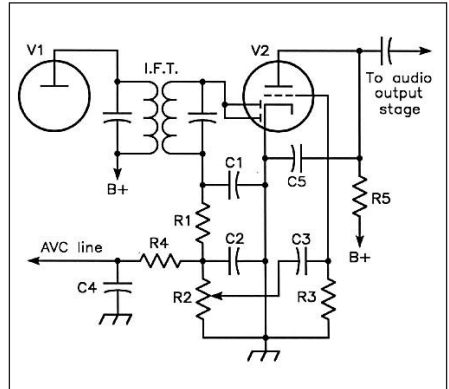
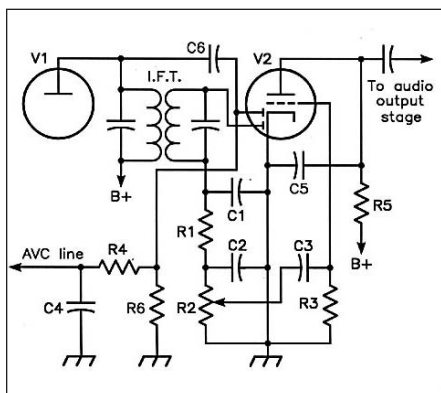
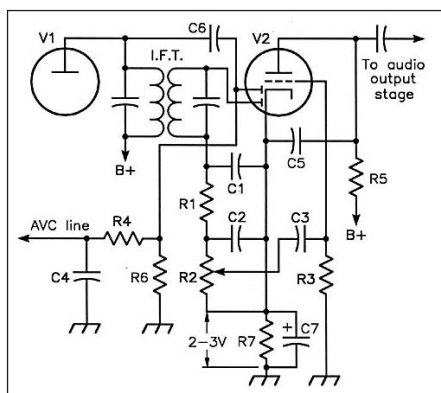

Fig. 1. A typical second detector/AVC/first audio stage.
Fig. 3. Separate audio and AVC detectors.
Fig. 4. A delayed AVC circuit.
Before we try to answer that question, let's take a brief look at a few of the circuits where this type of tube was used. Figure 1 is a familiar diagram of the second detector, AVC, and first audio stage of an AM radio receiver. The basic detector circuit includes the diode plates of V2 (connected together here, as was often done), the secondary winding of the i.f. transformer (IFT), and the diode load resistors R1 and R2 (which also have other functions to be discussed later). The circuit is completed by returning to the cathode of V2 through the common ground path.
Issues with the circuit of Figure 1
The circuit of Figure 1 also suffers from poor weak-signal sensitivity brought about by premature AVC action due to detected electrical and atmospheric noise and adjacent-channel carriers charging C4 to rather high voltage levels when a distant station is tuned in. The build-up in AVC voltage reduces the signal gain of the receiver far more than is appropriate for weak-signal reception, resulting in poor signal-to-noise ratio.
It seems the most common way the two diodes were used was to connect them in parallel, as in Figure 1. Possibly this was done to improve detector performance on highly-modulated program material. The idea here is to keep the diode input impedance as low as possible in relation to the signal source impedance, thereby improving demodulation and reducing the possibility of distortion-producing peak clipping (2).
Full-Wave Detection. A few manufacturers used V2’s second diode in a full-wave detector circuit. This is similar to the half-wave circuit of Figure 1, except each end of the i.f. transformer secondary is connected to a diode plate and the diode load resistance is connected at a center tap on the winding. The full-wave hookup offered little in the way of practical benefit to the consumer and in fact twice as many turns are required in the tapped IFT secondary winding in order to get the same output voltage as the common half-wave detector, so costs were higher. Pressure to hold down costs curtailed this application of the second diode.
A gas gate can be implemented in the circuit of Figure 1 by simply connecting one of the diode plates to the junction of R4 and C4. The converter grid is also tied to this junction through an isolating resistance of at least 100k ohms. Now, when the signal grid starts to take on a positive charge due to the action of gas ions and/or grid emission, the gas gate diode will conduct and bleed off the positive charges before the runaway condition can develop. Sounds weird, but if you encounter this problem the gas gate hookup is one potential solution to it.
Separating the AVC and Audio Detectors. Figure 3 shows a circuit where one diode is used for audio detection in the way previously explained, but the AVC circuit has its own diode driven from the primary of the IFT through a small capacitor (C6, usually 50 to 100pF). R6
Delayed AVC. The circuit of Figure 3 suffers from the same AVC voltage build-up during weak-signal reception as the circuit of Figure 1—perhaps even more so. This can be countered with two circuit variations, one of which is shown in Figure 4.
The circuit of Figure 4 applies no bias to the controlled tubes until the delay voltage is overcome, so some other means of maintaining a minimum operating bias on those tubes is usually necessary. One approach was to leave the cathode of V2 at ground and connect the lower end of AVC diode load resistor R6 to a "back bias" supply of -2 or -3 volts (taken across a small resistance in the set's B- return).